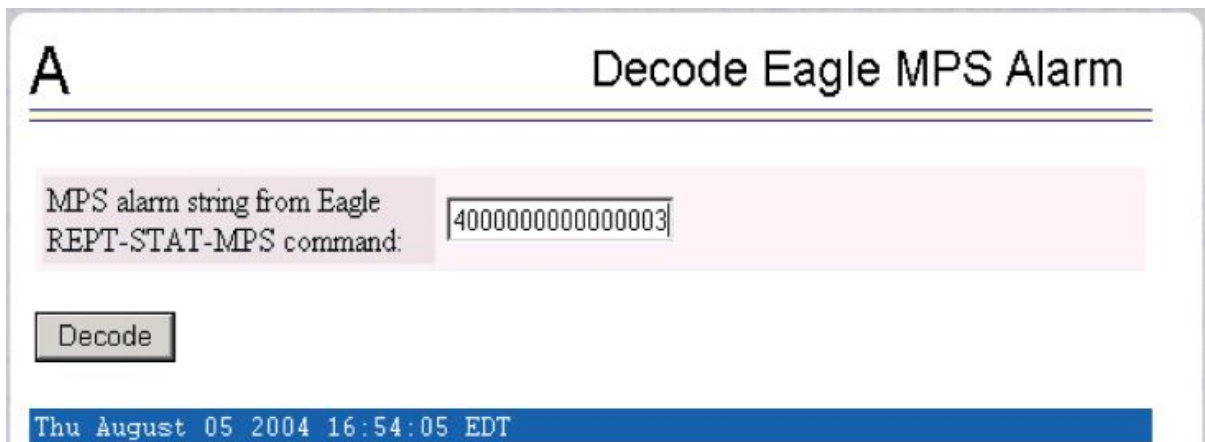

Figure 17: Decode MPS Alarm Screen
3. Enter the 16-digit alarm string into the window on the **Decode MPSAlarm** screen, as shown in Figure 17: Decode MPS Alarm Screen.